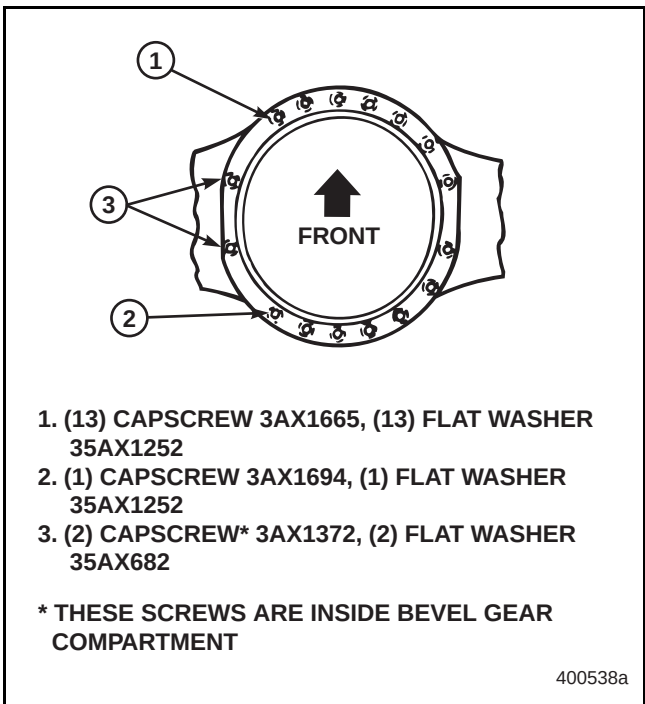

Figure 305 — Carrier Mounting Arrangement CRD 92/93
60. Install capscrews and washers as shown in Figures 305–307. Torque capscrews to specification.